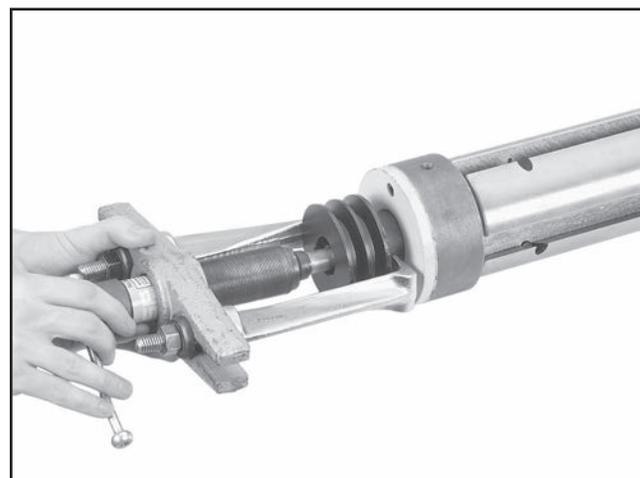

Figure 11. Removing pulley.
21. Remove left-hand-thread hex bolt and flat washer that secure pulley, use a pulley puller to remove pulley from cutterhead (see **Figure 11**), then remove the key.